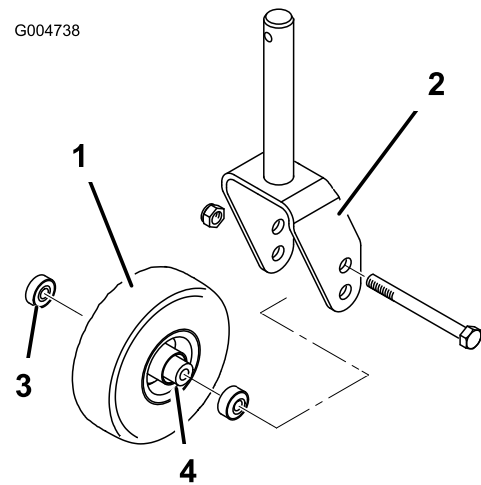
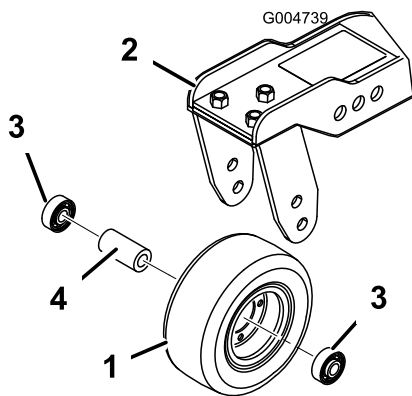

Figure 88
Figure 89
1. Remove the locknut from the bolt holding the castor wheel assembly between the castor fork (Figure 88) or the castor pivot arm (Figure 89). Grasp the castor wheel and slide the bolt out of the fork or pivot arm.
- Remove the bearing from the wheel hub and allow the bearing spacer to fall out (Figure 88 and Figure 89). Remove the bearing from the opposite side of the wheel hub.